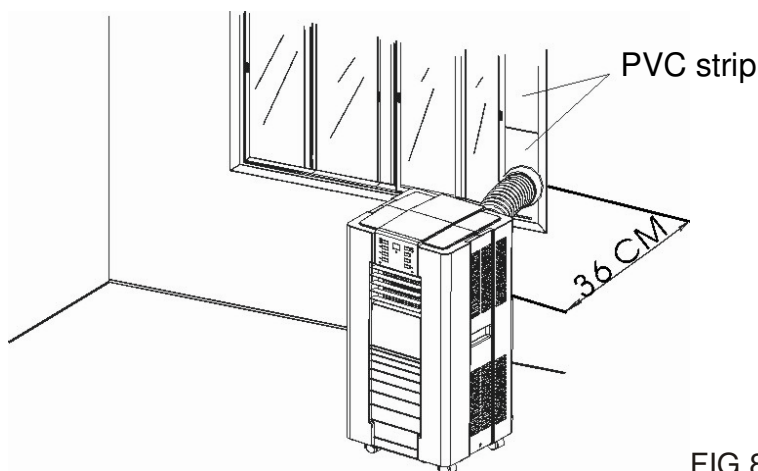

FIG.8
- Avoid kinks and bends in the exhaust hose as this will cause expelled moist air to build up causing the unit to overheat and shut down. Fig 8 & 9 show correct position.